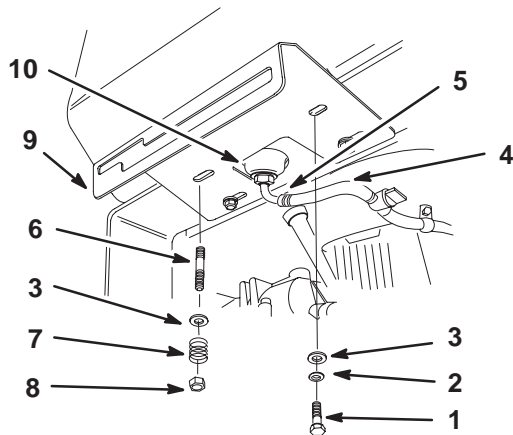

Figure 5
4. Push the fuel line onto the fuel tank connection and secure it with the hose clamp that is on the fuel line (Fig. 5).
- Secure the right side of shift lever plate and fuel tank to the rear frame (Fig. 5) with 2 bolts (5/16 x 7/8 inch), lock washers (5/16 inch) and washers (5/16 inch) (Fig. 5).
- Secure the left side shift lever plate and fuel tank to the rear frame (Fig. 5) with washers (5/16 inch), springs and locknuts (5/16 inch) (Fig. 5).